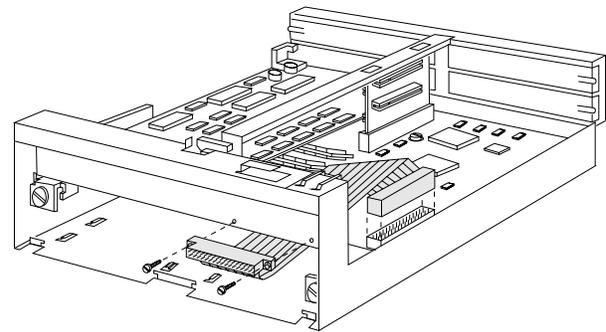

Figure 3-7. Attaching the Short Diskette Drive Cable to System Board
7. Attach the shorter of the two cables to the system board. The connector is keyed so you cannot plug it incorrectly. See Figure 3-7.